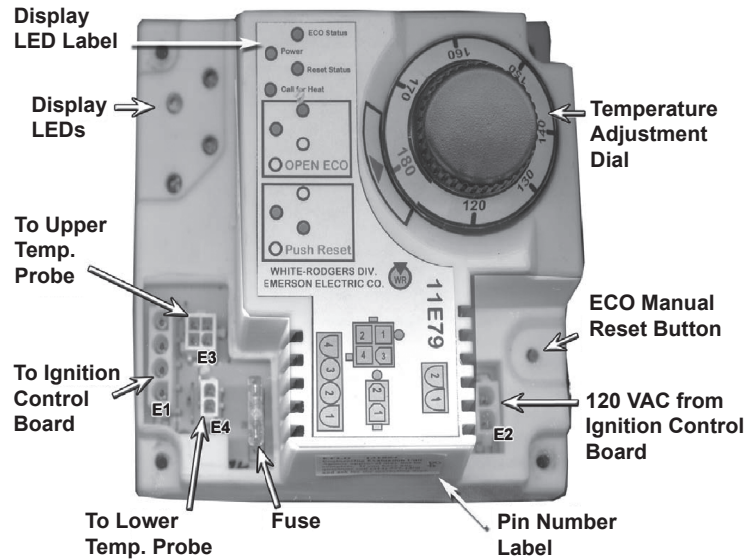

Figure 17. White Rodgers Integrated Control Thermostat
Tank temperature has risen above 203°F and caused lockout. ECO status LED on integrated control will also be illuminated. See Figure 17.
2. Cool tank to below 120°F to reset. ECO reset status LED will illuminate on the integrated control when the control can be reset. Push reset button on integrated control. See Figure 17.
Tank has cooled below 120° F. Preceded by "ECO Open" indication.	<ul style="list-style-type: none"> • Push the manual reset button. Refer to Figure 17. • Troubleshoot for the reason that the ECO opened.